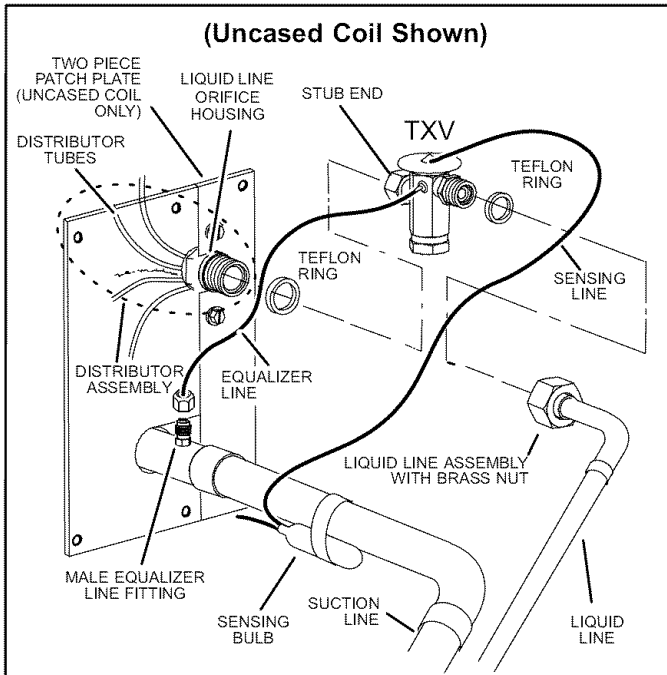

Figure 23. Typical TXV Removal
- Remove the suction line sensing bulb as illustrated in figure 23.
7. Remove and discard TXV and the two Teflon rings as illustrated in figure 23.